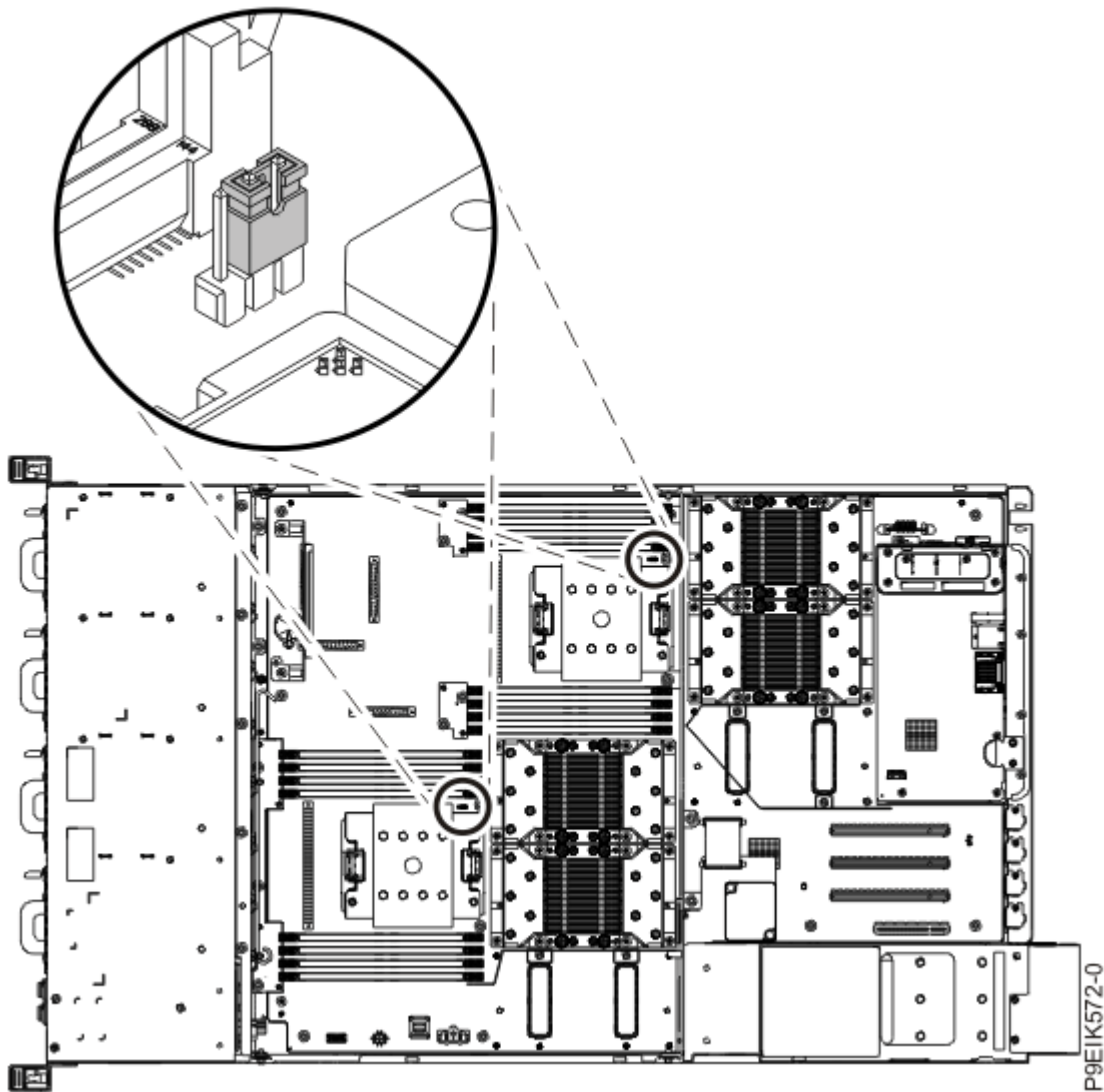

Figure 130. System processor jumper positions
12. Remove the system processor jumpers from the system backplane as shown in Figure 130 on page 162.